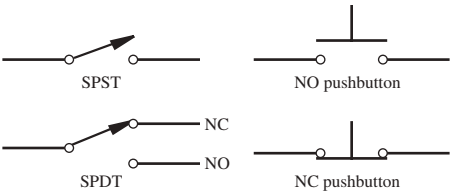
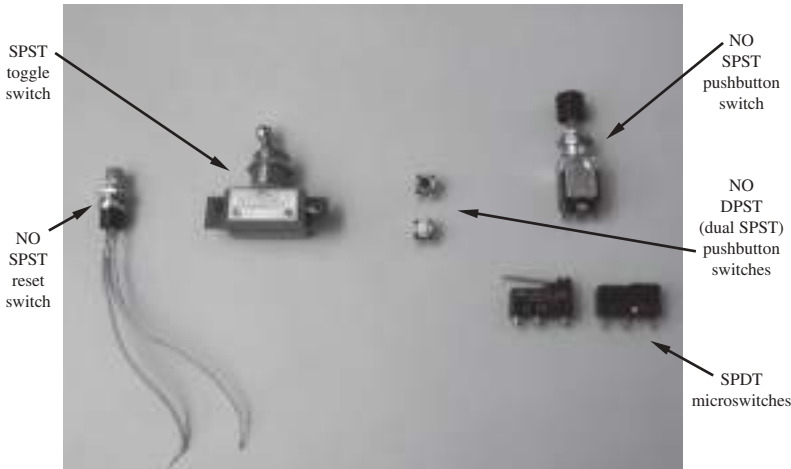

Figure 9.2 Switches.
Figure 9.3 Photograph of various types of switches.
There are many designs for limit **switches**, including pushbutton and levered microswitches. All switches are used to open or close connections within circuits. As illustrated in Figure 9.2, switches are characterized by the number of poles (P) and throws (T) and whether connections are **normally open** (NO) or **normally closed** (NC). A **pole** is a moving element in the switch that makes or breaks connections, and a **throw** is a contact point for a pole. The SPST switch is a single-pole (SP), single-throw (ST) device that opens or closes a single connection. The SPDT switch changes the pole between two different throw positions. There are many variations on the pole and throw configurations of switches, but their function is easily understood from the basic terminology. Figure 9.3 and Video Demo 9.3 show various types of switches with the appropriate designations. Video Demo 9.4 shows an interesting example of a normally open mercury switch that is used to turn on or off an air conditioning or heating unit when a bimetallic strip coil (see Section 9.4.2) rotates a certain amount. Switch terminology also applies to electromechanical relays (see Section 10.5.4 for more information and examples).